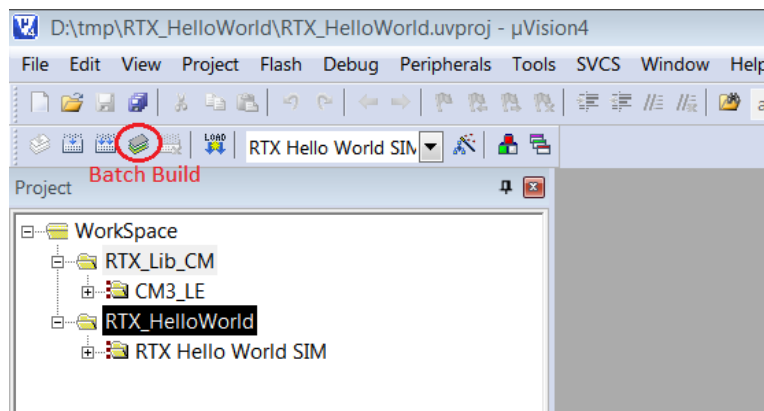

Figure 1.23: Keil IDE: Workspace with Two Projects
4. Two projects appear under the Project Window (see Figure 1.23. Click the Batch Build button (see Figure 1.23 to bring up the Batch Build window.